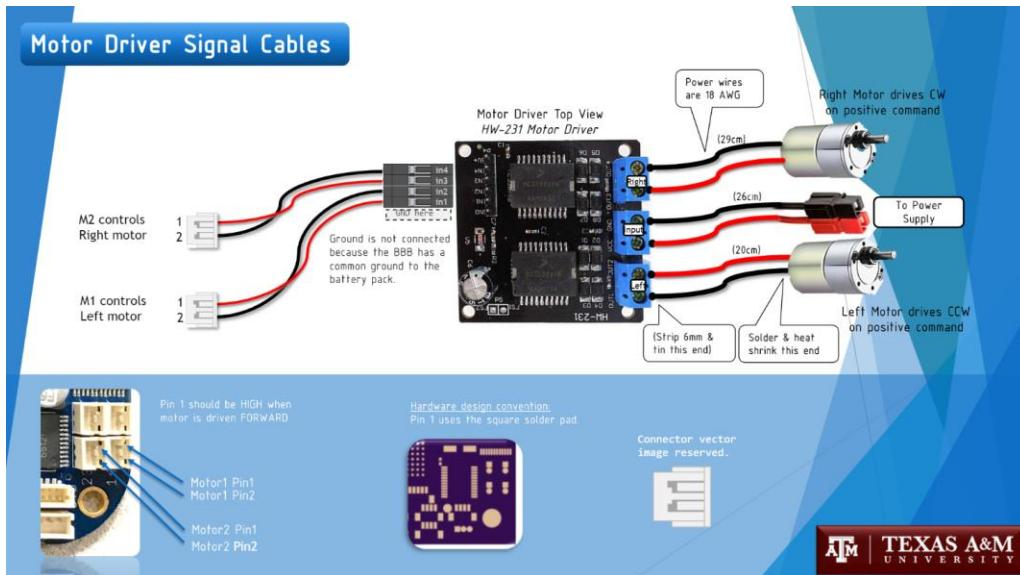

Figure 1
- Figure 1 shows how the driver and motors connect to the BeagleBone.
- Following figure 1, carefully connect all your power and signal cables, make sure power is OFF to avoid burned components.